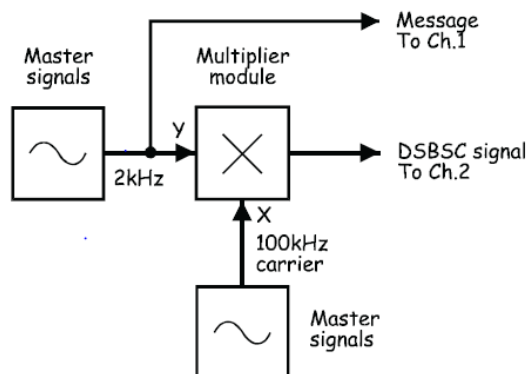

Figure 4.1 DSB-SC Modulation.
- Connect the set-up as shown in Figure 4.1.